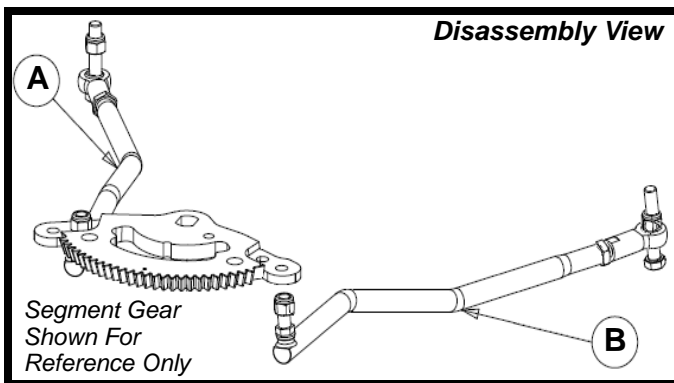

FIGURE 2
4. Remove items **A** and **B** shown in Figure 2 including the hardware. Discard both of the drag link assemblies and hardware.